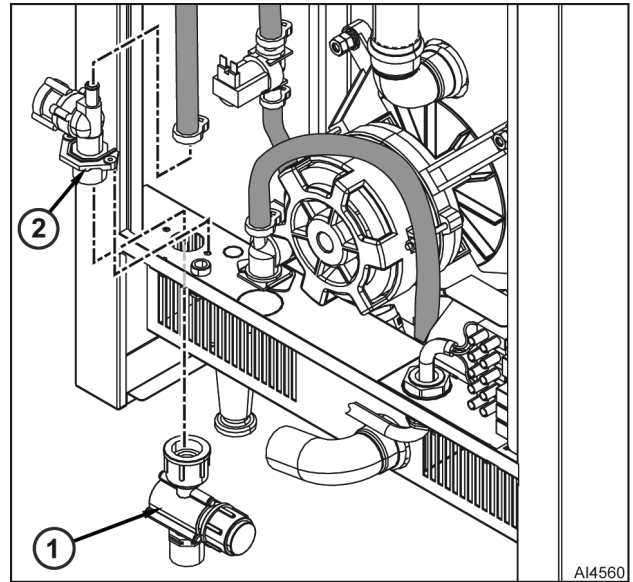

Fig. 48
4. Disconnect filtered water supply from oven inlet filter assembly (1, Fig. 48).
5. Unthread inlet filter assembly (1, Fig. 48) from filtered water flow restrictor (2).